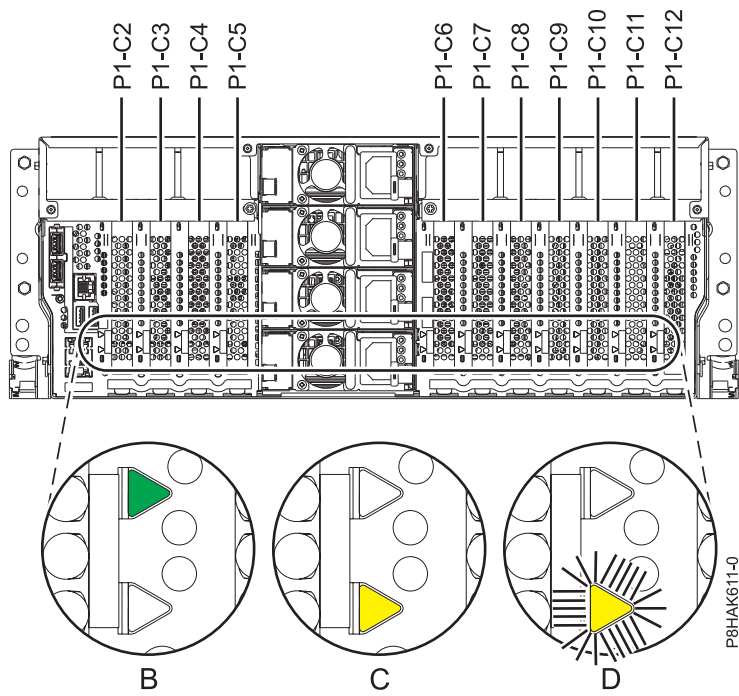
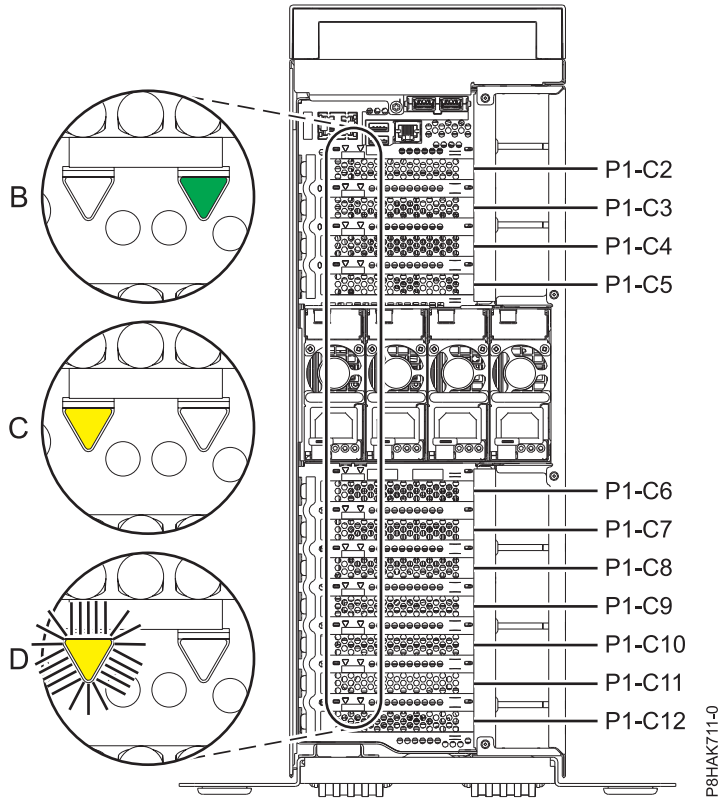

Figure 56. PCIe adapter slot locations and locations of the LEDs in a rack-mounted system
Figure 57. PCIe adapter slot locations and locations of the LEDs in a stand-alone 8286-41A system
1. Familiarize yourself with the locations of PCIe adapter slots and the service indicators for the PCIe adapter that you want to service. The PCIe adapters are installed in the rear of the system. Figure 56 on page 61 and Figure 57 on page 61 show the locations of the PCIe adapters in a system and the locations of the light-emitting diodes (LEDs) for the PCIe adapter.